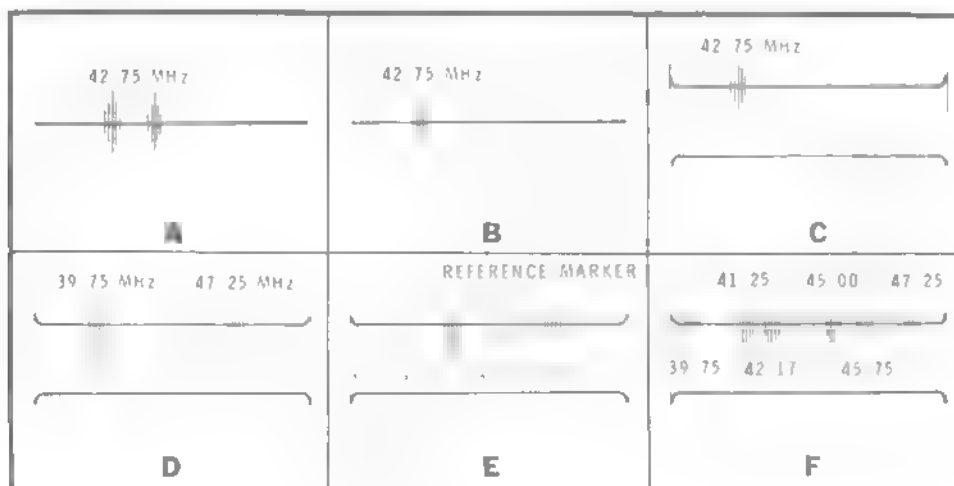

Figure 5
- () Set the BLANKING switch to ON position. You should now have a double line, as shown in C of Figure 5.